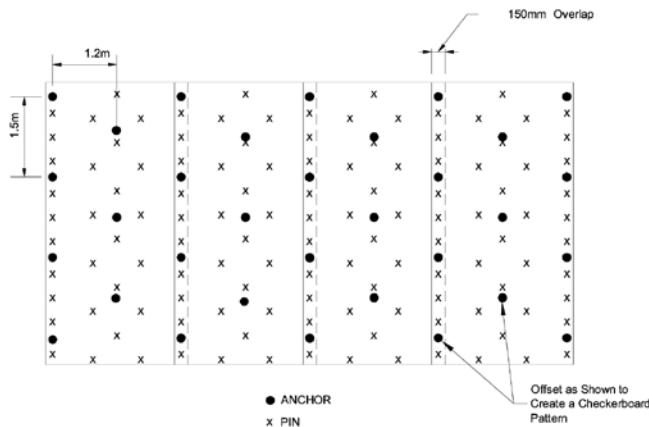
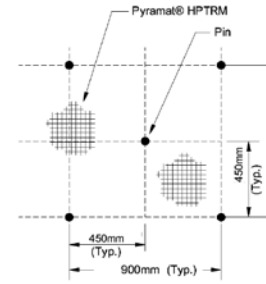

FIGURE 4: ANCHOR / PIN PATTERN DETAIL
FIGURE 6: PIN PATTERN DETAIL
- a: Roll edge overlap - 150mm minimum overlap with upstream mat on top. Secure with one row of ground pinning devices on 300mm centers and with one row of earth percussion anchors on 1.2m centers (see Figure 4)
- Secure mat using suggested ground pinning devices and earth percussion anchors for appropriate frequency and pattern shown on the Anchor/Pin Pattern Detail (see Figure 4) and the Pin/Pattern Detail (see Figure 6)